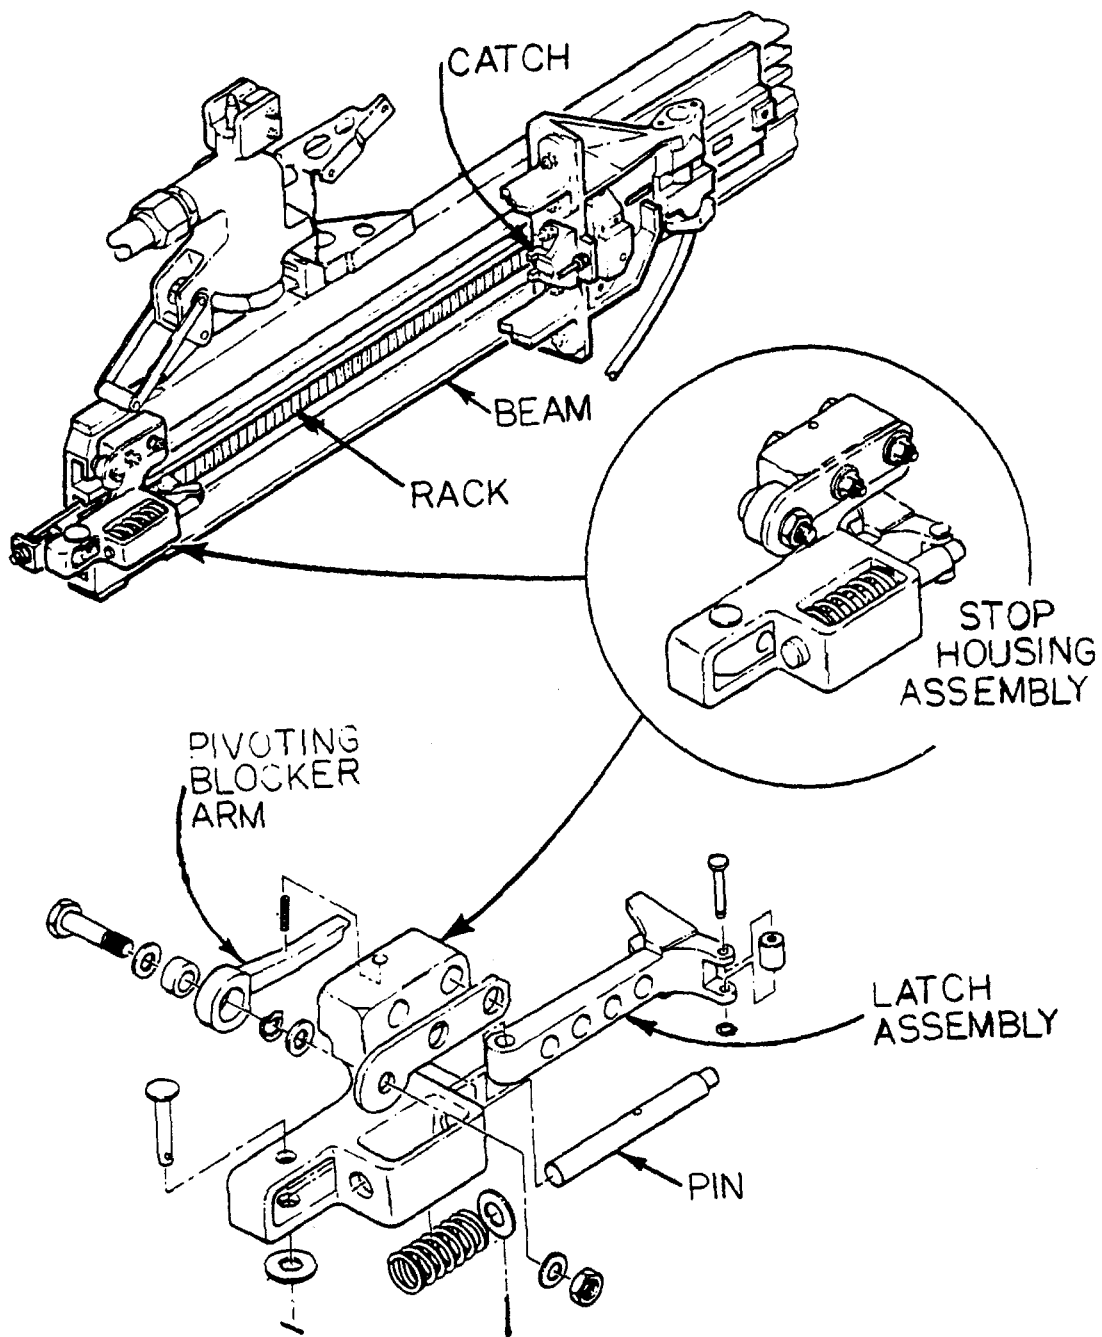

Figure 1 - Sequencing Latch
1. Description. A sequence latch assembly (see Figure 1) is mounted on the forward end of each translating beam. The major subassemblies of the sequence latch assembly are the stop housing, latch, pin and pivoting blocker arm.